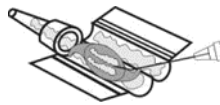

Fig.04
4. Applying a few drops of BS solution on the surface of the lens, as in Fig.04, will help to keep the lens in hydrated condition. As the lens is Hydrophobic in nature, this is helpful.